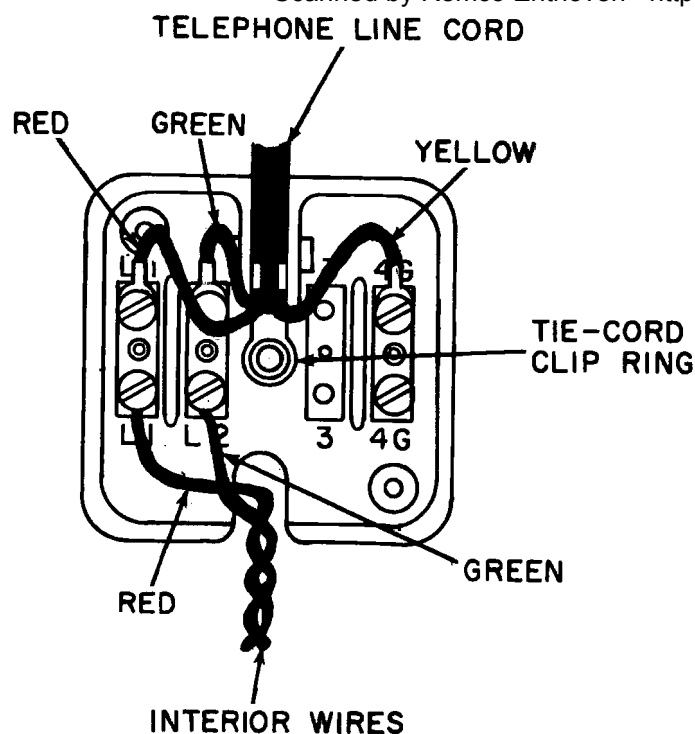

Figure 3. Terminal block connections for standard (NON-SATT) stations.
- a. Connect the red interior wire to terminal L1 (figures 3 and 4).